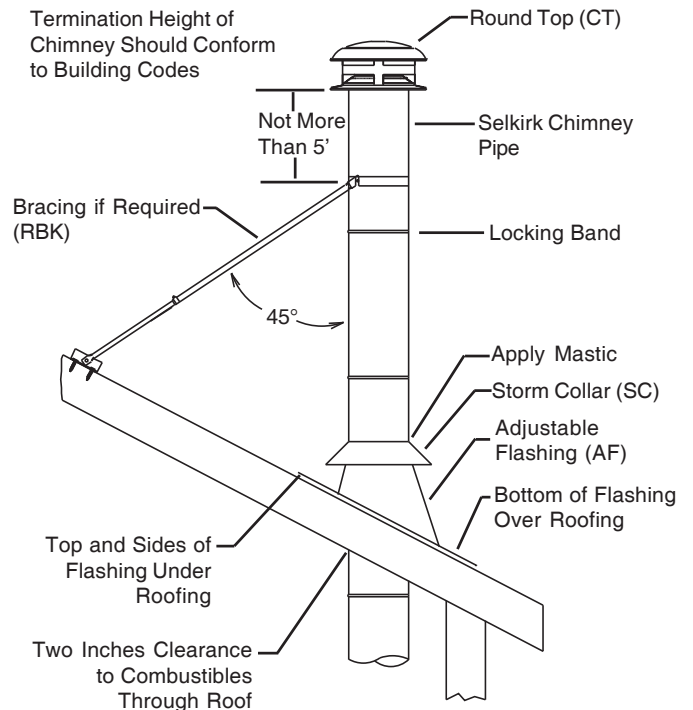

FIG. 2 CHIMNEY FLASHING & BRACING
the flange with roofing material. However, be sure the lower unnailed portion of the flange covers the roofing material. See Fig. 2.
General Rule: Clamp the Support Band to the chimney at a point about 2/3'ds of height above the roof. The angle of the Support Braces to the chimney should be approx. 45 degrees. (See Fig. 2) Depending on roof slope and chimney height, it may be necessary to locate the Support Band at a height lower than the desired 2/3'ds. This is acceptable as long as the installation complies with the following:
- 2.) The height of the chimney above the Support Band does not exceed 5' (See Fig. 2).
1. Install Flashing and Storm Collar in usual manner. See Fig. 2.